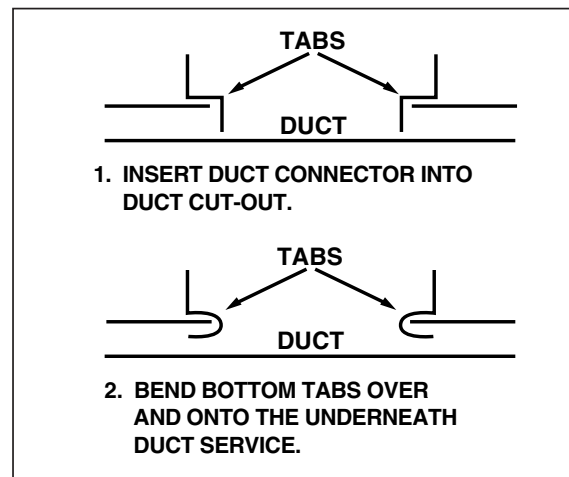

Figure 16. Installation of Duct Connector
- c. Bend bottom tabs under and up tightly against the supply air duct (See Figure 16).